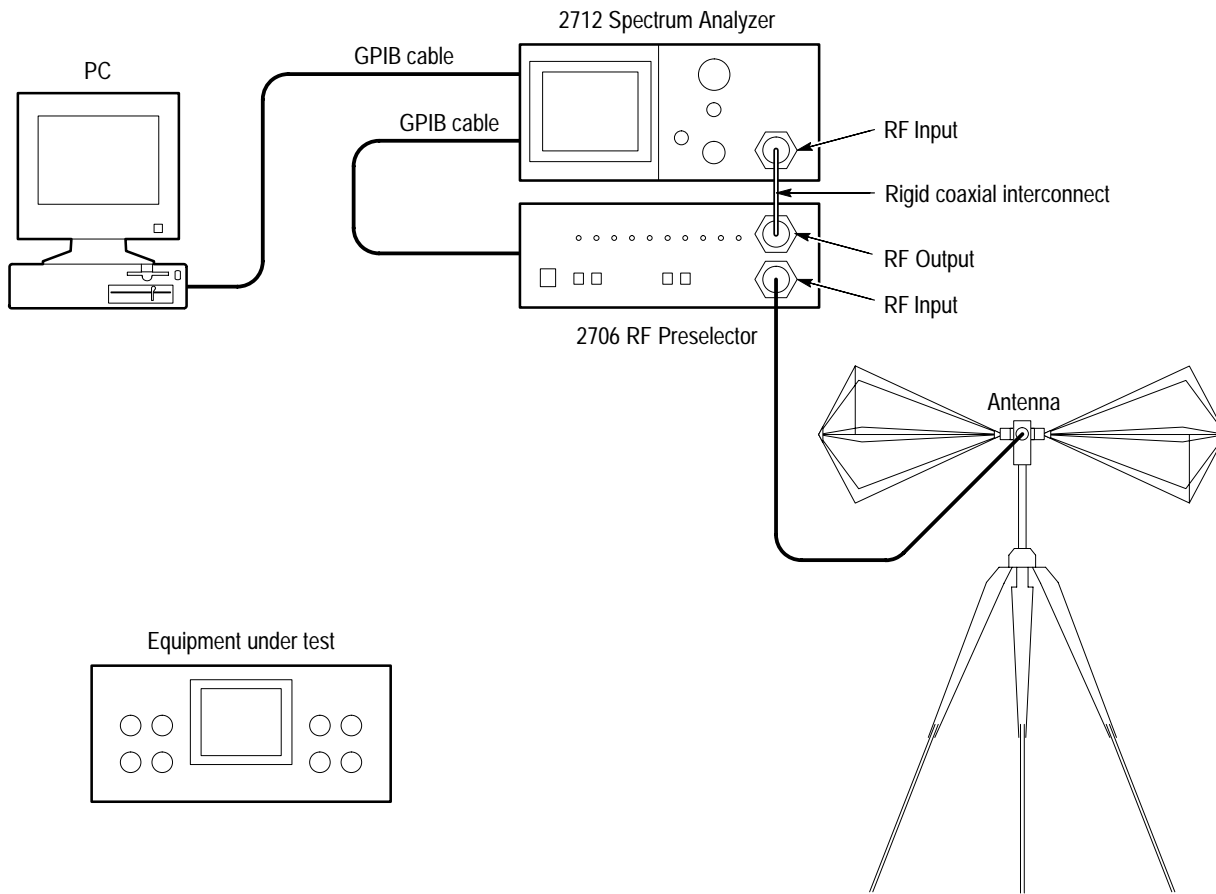

Figure 2: Equipment connections for radiated EMI measurements
The equipment included in the EMI measurement system must be properly connected to ensure accurate measurements. System configuration differs for radiated and conducted testing. To configure your system for radiated EMI testing, refer to Figure 2 on page 14 and perform the procedure following the figure. To configure your system for conducted EMI testing, refer to Figure 3 on page 18 and perform the procedure following the figure. Both procedures follow the same steps to connect the GPIB cables, the RF preselector, and the spectrum analyzer.
2. Stack the spectrum analyzer on top of the RF preselector as shown in Figure 2 on page 14.
The following equipment, supplied with the EMI measurement system, is necessary for radiated measurement tests. Refer to Figure 2 during the procedure for correct equipment connections.